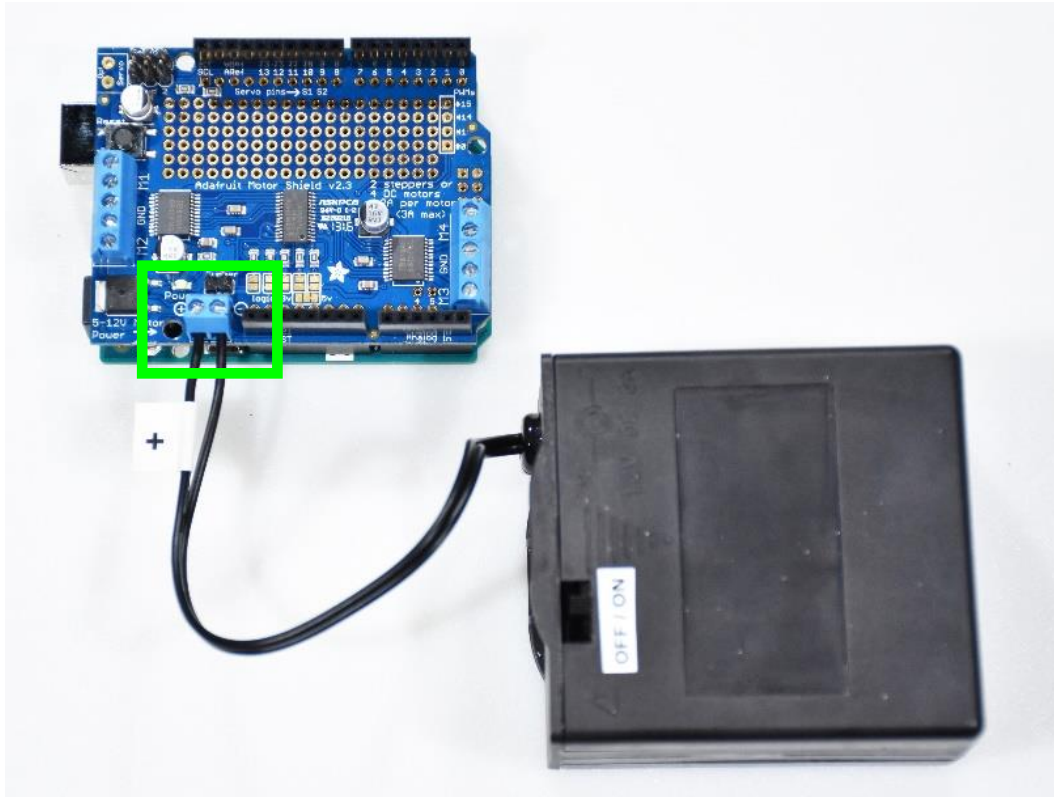

Figure 4-2. Powering the Adafruit Motor/Stepper/Servo shield.
As shown in Figure 4-2, connecting the battery pack to the motor shield is relatively simple. However, since you are working with DC, you need to be very careful with the polarity. The battery pack has a positive (“+”) lead wire and a negative (“-”) lead wire. If they are not clearly marked in the battery pack that you have, you can use a multimeter that is set to measure DC voltage to figure out which wire is the “+” and which wire is the “-”. The information printed on the board of the motor shield clearly indicates where the lead wires of the battery pack need to be connected. In particular, the board clearly indicates the connection point for the “+” lead wire and for the “-” lead wire of the battery pack.
2. Connect the 12V external power supply to the motor shield (see Figure 4-2). The external power supply is mainly used to power all the motors connected to the shield.